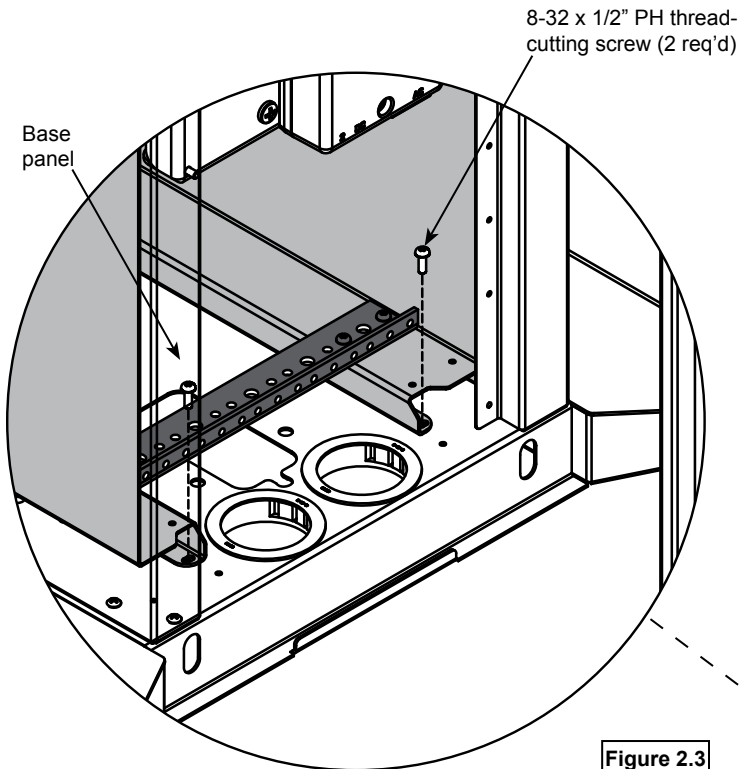

Figure 2.3
3. Align with the mounting holes in the base panel and use (2) 8-32 x 1/2" PH thread-cutting screws (1 through each bracket) to secure to base panel. **Figure 2.3.**